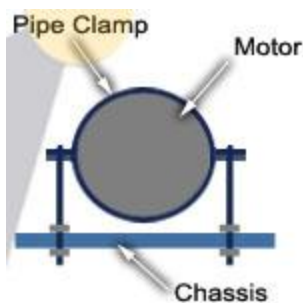

figure 2.C
**Figure 2.C** shows how a pipe clamp can be used to mount the motor on the chassis. As you can notice, one of the main advantages of using a pipe clamp, is that you can easily adjust the distance between the motor and the base of the robot to which the motor is fixed, which is not the case with other solutions, like the U-Bolt idea..